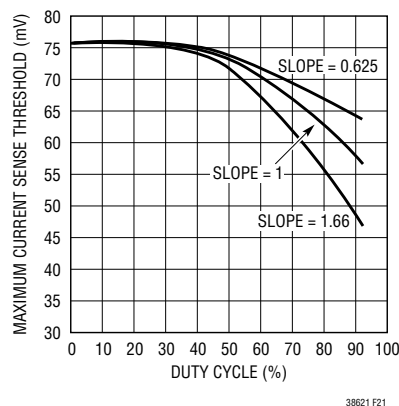

Figure 21. Maximum Sense Voltage Variation with Duty Cycle and Slope Gain
The peak sense voltage threshold for the LTC3862-1 is 75mV at low duty cycle and with a normalized slope gain of 1.00, and is measured from SENSE+ to SENSE-. Figure 21 illustrates the change in the sense threshold with varying duty cycle and slope gain.
- The maximum current sense threshold for the LTC3862-1 is 75mV at low duty cycle and a normalized slope gain of 1.0. Using Figure 21, the maximum sense voltage drops to 68mV at a duty cycle of 70% with a normalized slope gain of 1, so the sense resistor is calculated to be: